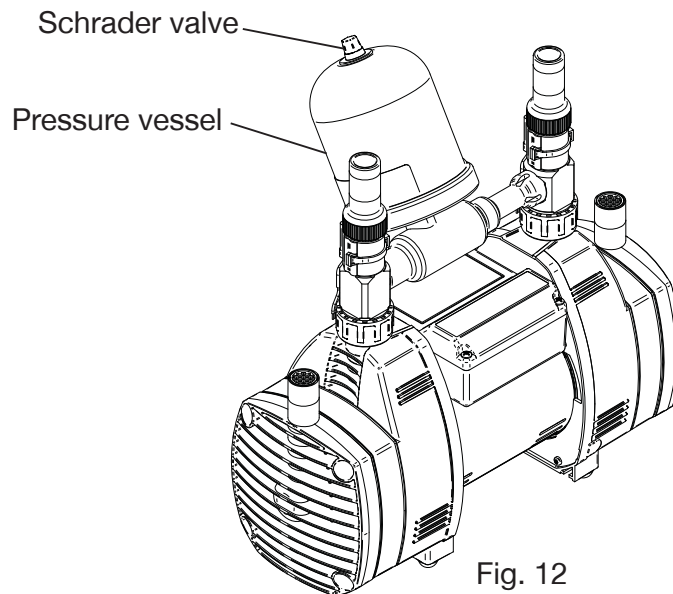

Fig. 12
d) Check air charge at Schrader valve (Fig. 12) using a tyre pressure gauge.